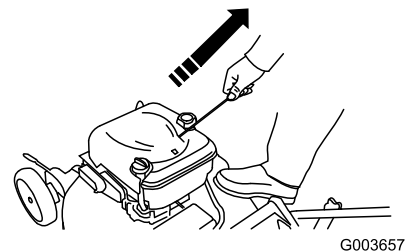

Figure 16
- Pull the recoil starter at the engine (Figure 16).